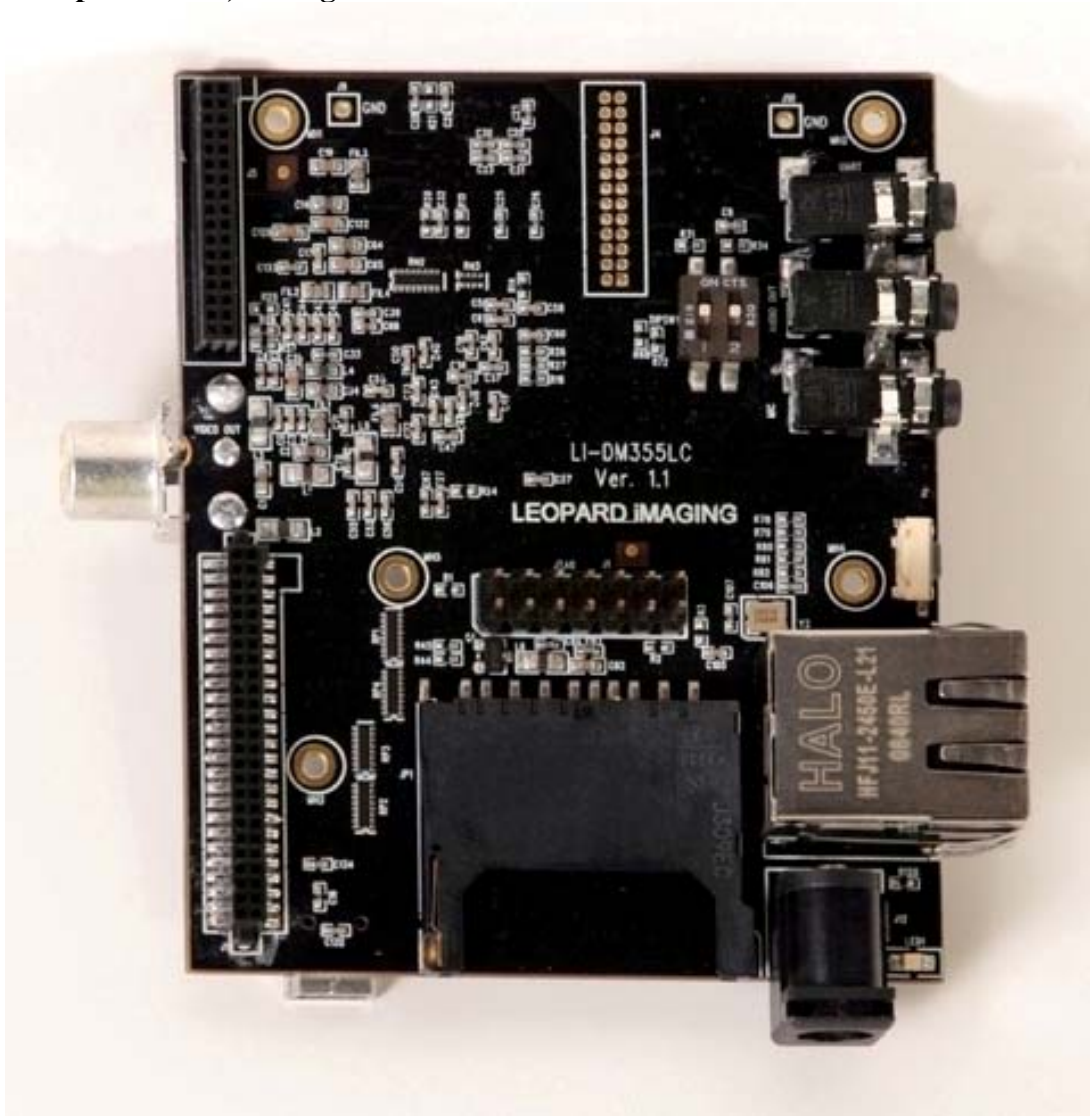

Figure 1. LeopardBoard
1.1 LeopardBoard, see Figure 1.